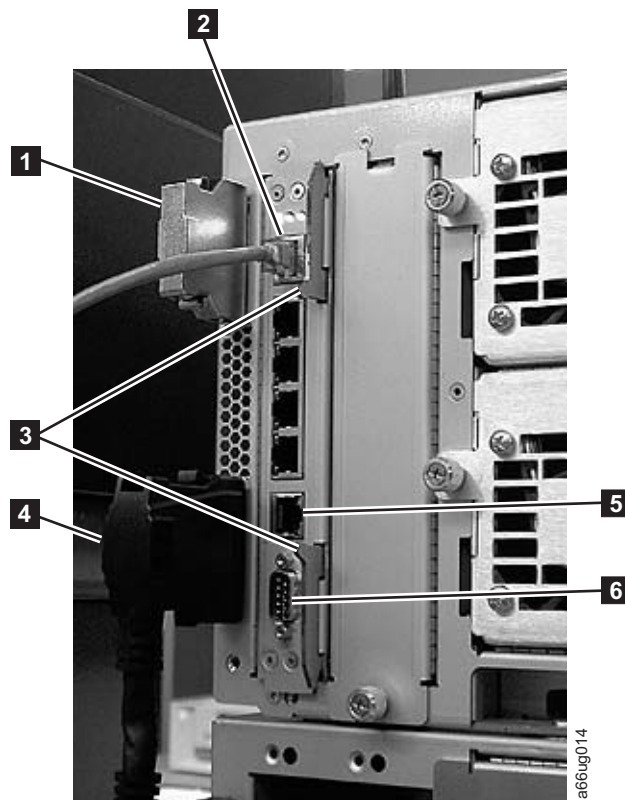

Figure 8-40. Library Control Blade (LCB)
2. Grasp the pair of latches near the top and bottom of the LCB (**3** in Figure 8-40) by pushing them in until they click into place.
3. Reconnect the Ethernet cable (**2** in Figure 8-40 on page 8-40) by pinching the tab and pushing the connector into the LCB.
Note: Six slots reside below the Ethernet cable. The four topmost slots are reserved for future use. The two bottommost slots are designated as Ethernet (**5** in Figure 8-40 on page 8-40) and serial (**6** in Figure 8-40 on page 8-40) ports, and are reserved for use by IBM Service Personnel.